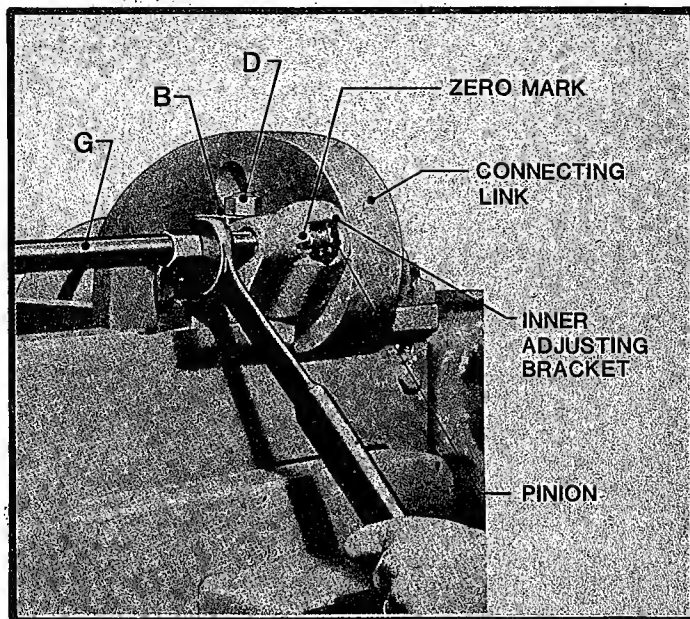

FIGURE 77
8. Adjust ram position (14 Series and larger). Refer to Figure 77: